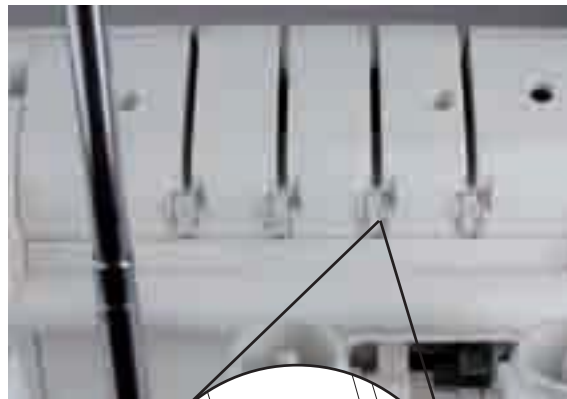

Fig. 25
2. Thread the yarn into the thread guide in that you pull the thread down until it slips under the thread guide (2) (Fig. 25).